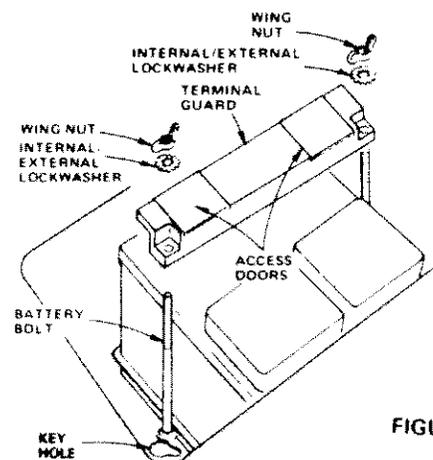

FIGURE 5
- Using the key hole on one side of the battery support (Fig. 5) slide battery bolt into frame key hole (head of bolt down). Fasten the battery bolt to the terminal guard using internal/external lockwasher, wing nut, (shown full size on pg. 6) as shown in Fig. 5.
- Assemble the remaining battery bolt to other side of battery support and fasten terminal guard to it with remaining internal/external lockwasher, wing nut, (shown full size on pg. 6) as shown in Fig. 5.